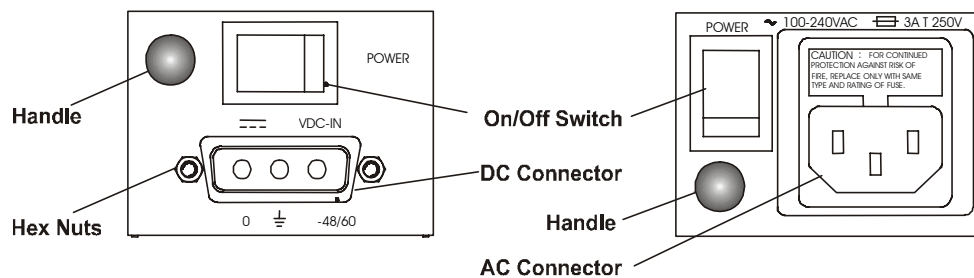

Figure 2-14. Power Supply (DC and AC) Rear Panel
1. Turn off the power switch/switches (red, lit) of the power supply (PS1, PS2) on the rear panel (see Figure 2-14).